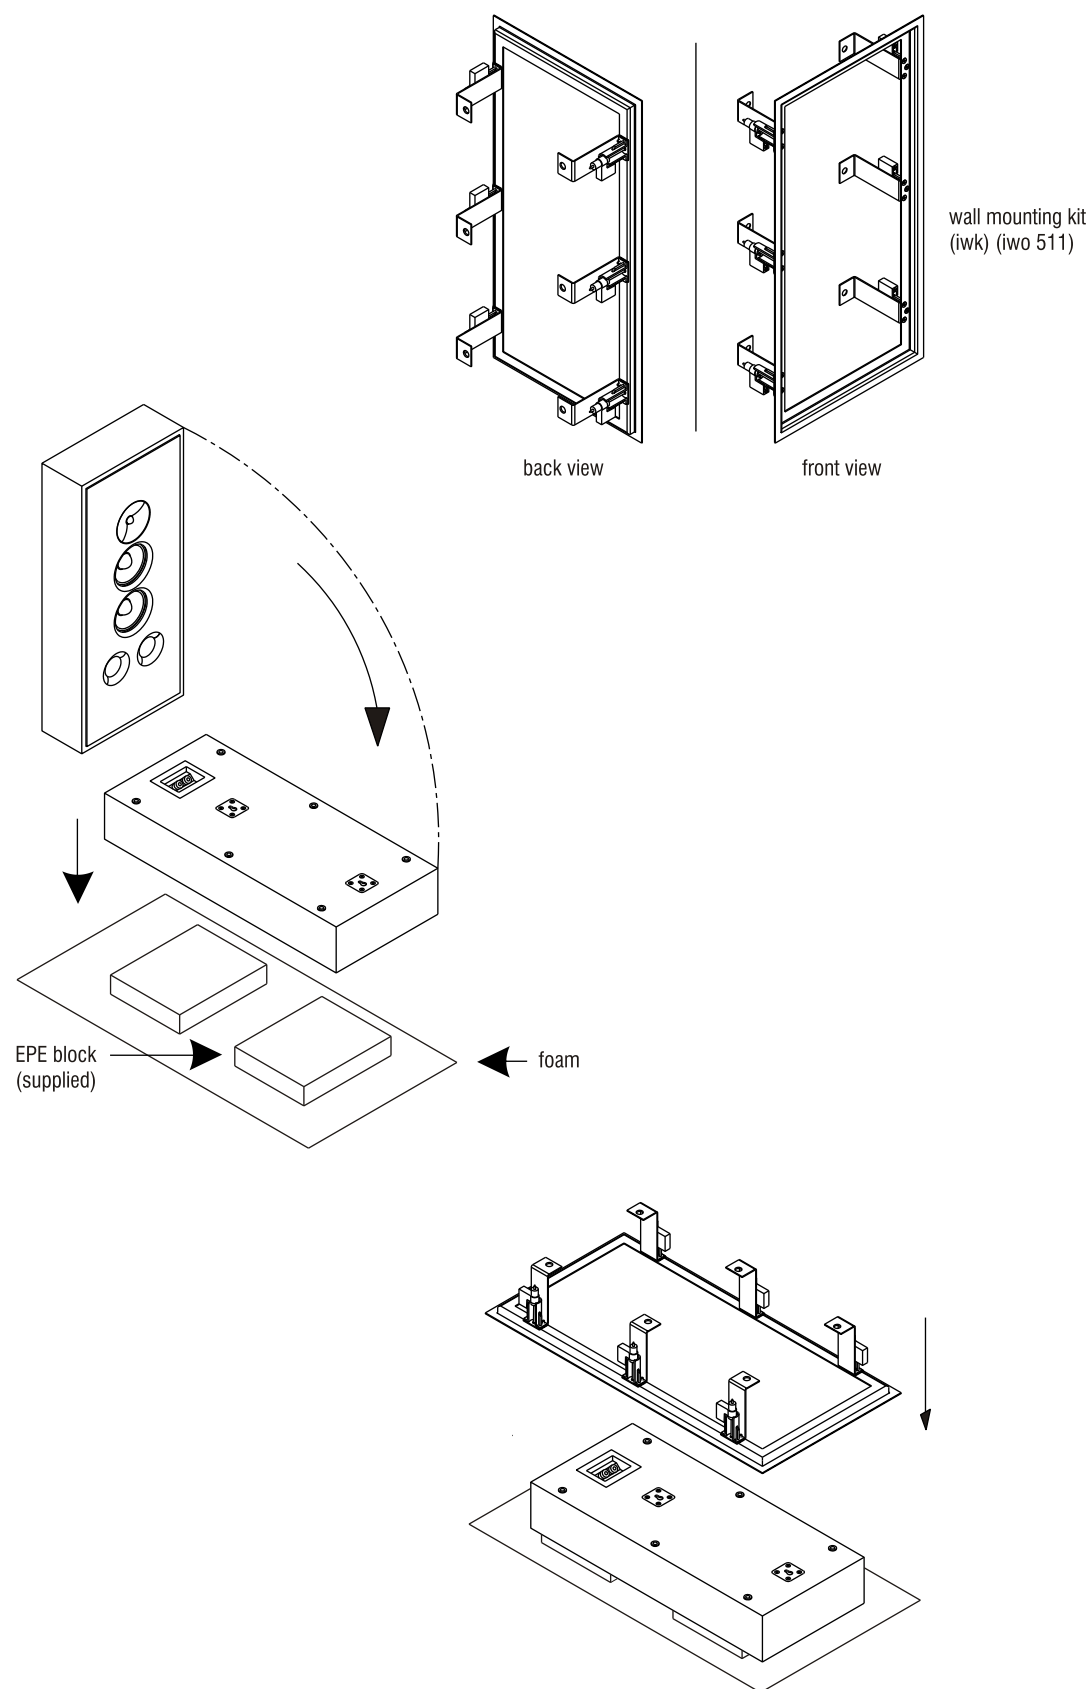

Fig 1
• fig 1 •
- Detach the magnetic grill and put the cabinet face down on 2 EPE blocks (supplied) on a piece of foam on a table. Hold the kit and gently slide it the cabinet so that the metal tongues of the kit come to rest on the cabinet back. Please see fig. 1 below.